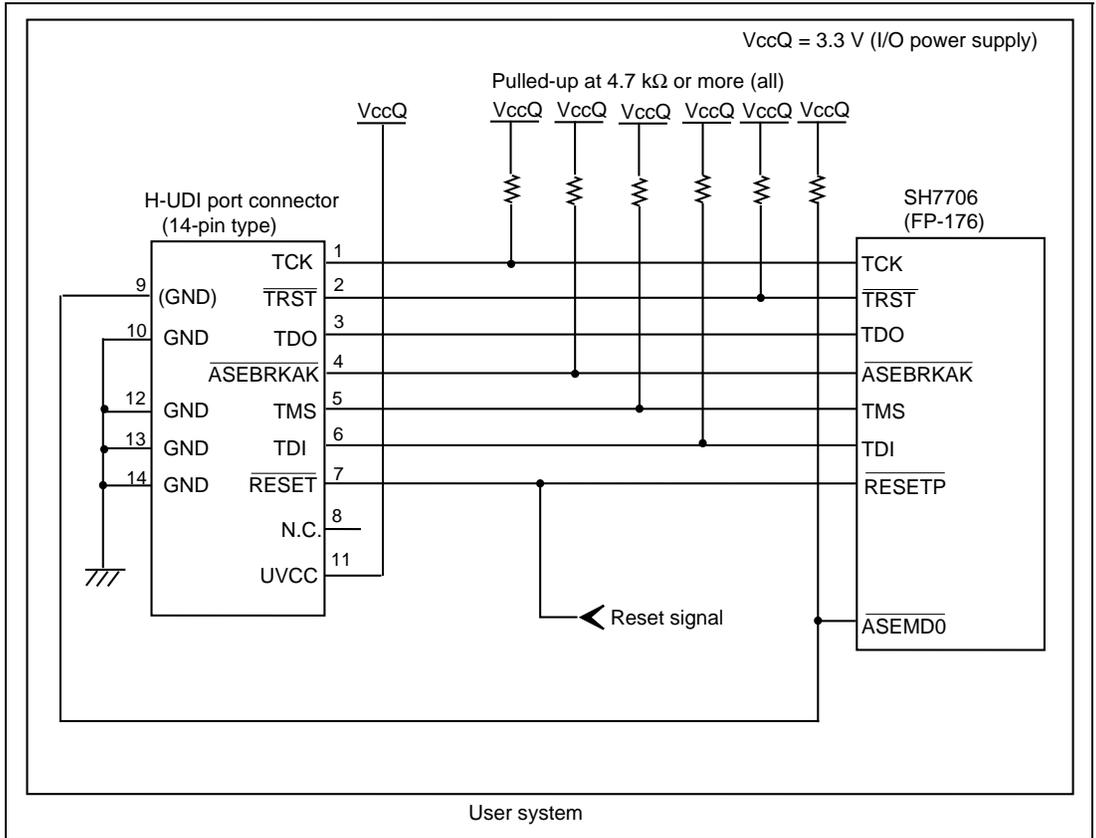
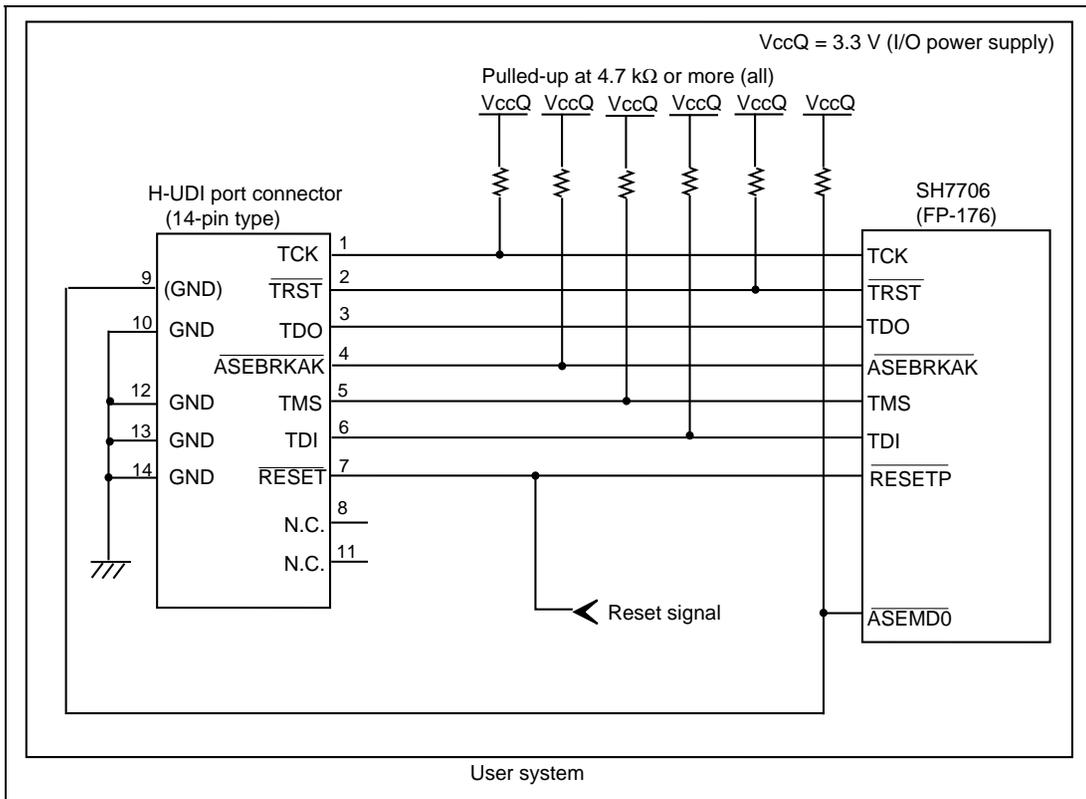

Figure 1.5 Recommended Circuit for Connection between the H-UDI Port Connector and MPU when the Emulator is in Use (14-Pin Type UVCC Connected)
Figure 1.6 Circuit for Connection between the H-UDI Port Connector and MPU when the Emulator is in Use (14-Pin Type UVCC Not Connected*)
Figure 1.5 shows a recommended circuit for connection between the H-UDI and AUD port connectors (14 pins) and the MPU when the emulator is in use. Figure 1.6 shows a circuit for connection when UVCC is not connected.
- (1) When the emulator is used: $\text{/ASEMD0} = 0$ (ASE mode)
- (2) When the emulator is not used: $\text{/ASEMD0} = 1$ (normal mode)Figures 1.5 and 1.6 show examples of circuits that allow the /ASEMD0 pin to be GND (0) whenever the emulator is connected by using the user system interface cable. When the /ASEMD0 pin is changed by switches, etc., ground pin 9. Do not connect this pin to the /ASEMD0 pin.
5. When the power supply of the user system is turned off, supplying V_{ccQ} of the user system to the UVCC pin reduces the leakage current from the emulator to the user system. A level shifter that is activated by the internal power supply or user power supply (changed by the switch) is installed in the interface circuit of the emulator. If the user power is supplied to the UVCC pin, the level shifter is not activated as long as no user power is supplied. When the power supply of the user system is turned off, no current flows from the user interface. The I/O voltage level of the user system interface can be the same as that of the V_{ccQ} . To operate the emulator with low voltage (lower than 3.3 V), the V_{ccQ} must be supplied to the UVCC pin. Make the emulator's switch settings so that the V_{ccQ} will be supplied ($\text{SW2} = 1$ and $\text{SW3} = 1$) (as shown in figure 1.5).
6. The resistance values shown in figures 1.5 and 1.6 are recommended.
When the circuit is connected as shown in figure 1.5, the switches of the emulator are set as SW2 = 1 and SW3 = 1. For details, refer to section 3.8, Setting the DIP Switches, in the Debugger Part of the SuperH™ Family E10A-USB Emulator User's Manual.
When the circuit is connected as shown in figure 1.6, the switches of the emulator are set as SW2 = 0 and SW3 = 1. For details, refer to section 3.8, Setting the DIP Switches, in the Debugger Part of the SuperH™ Family E10A-USB Emulator User’s Manual.